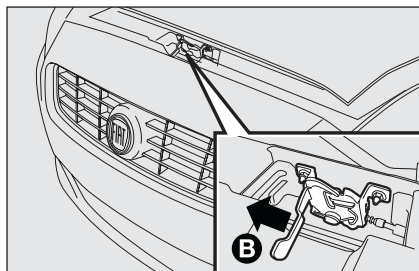

fig. 117
- ☐ insert your hand between bonnet and bumper and push the lever **B-fig. 117** to the left as shown;